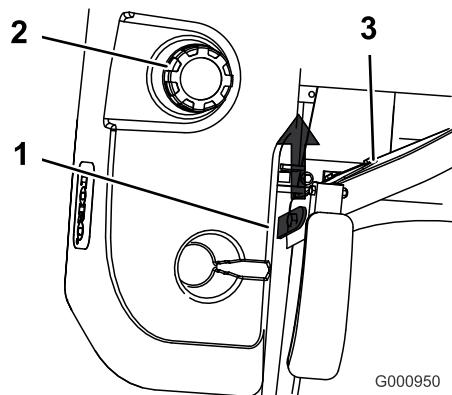

Figure 23
3. Raise the seat up. This will allow access to the machine under the seat (Figure 23).